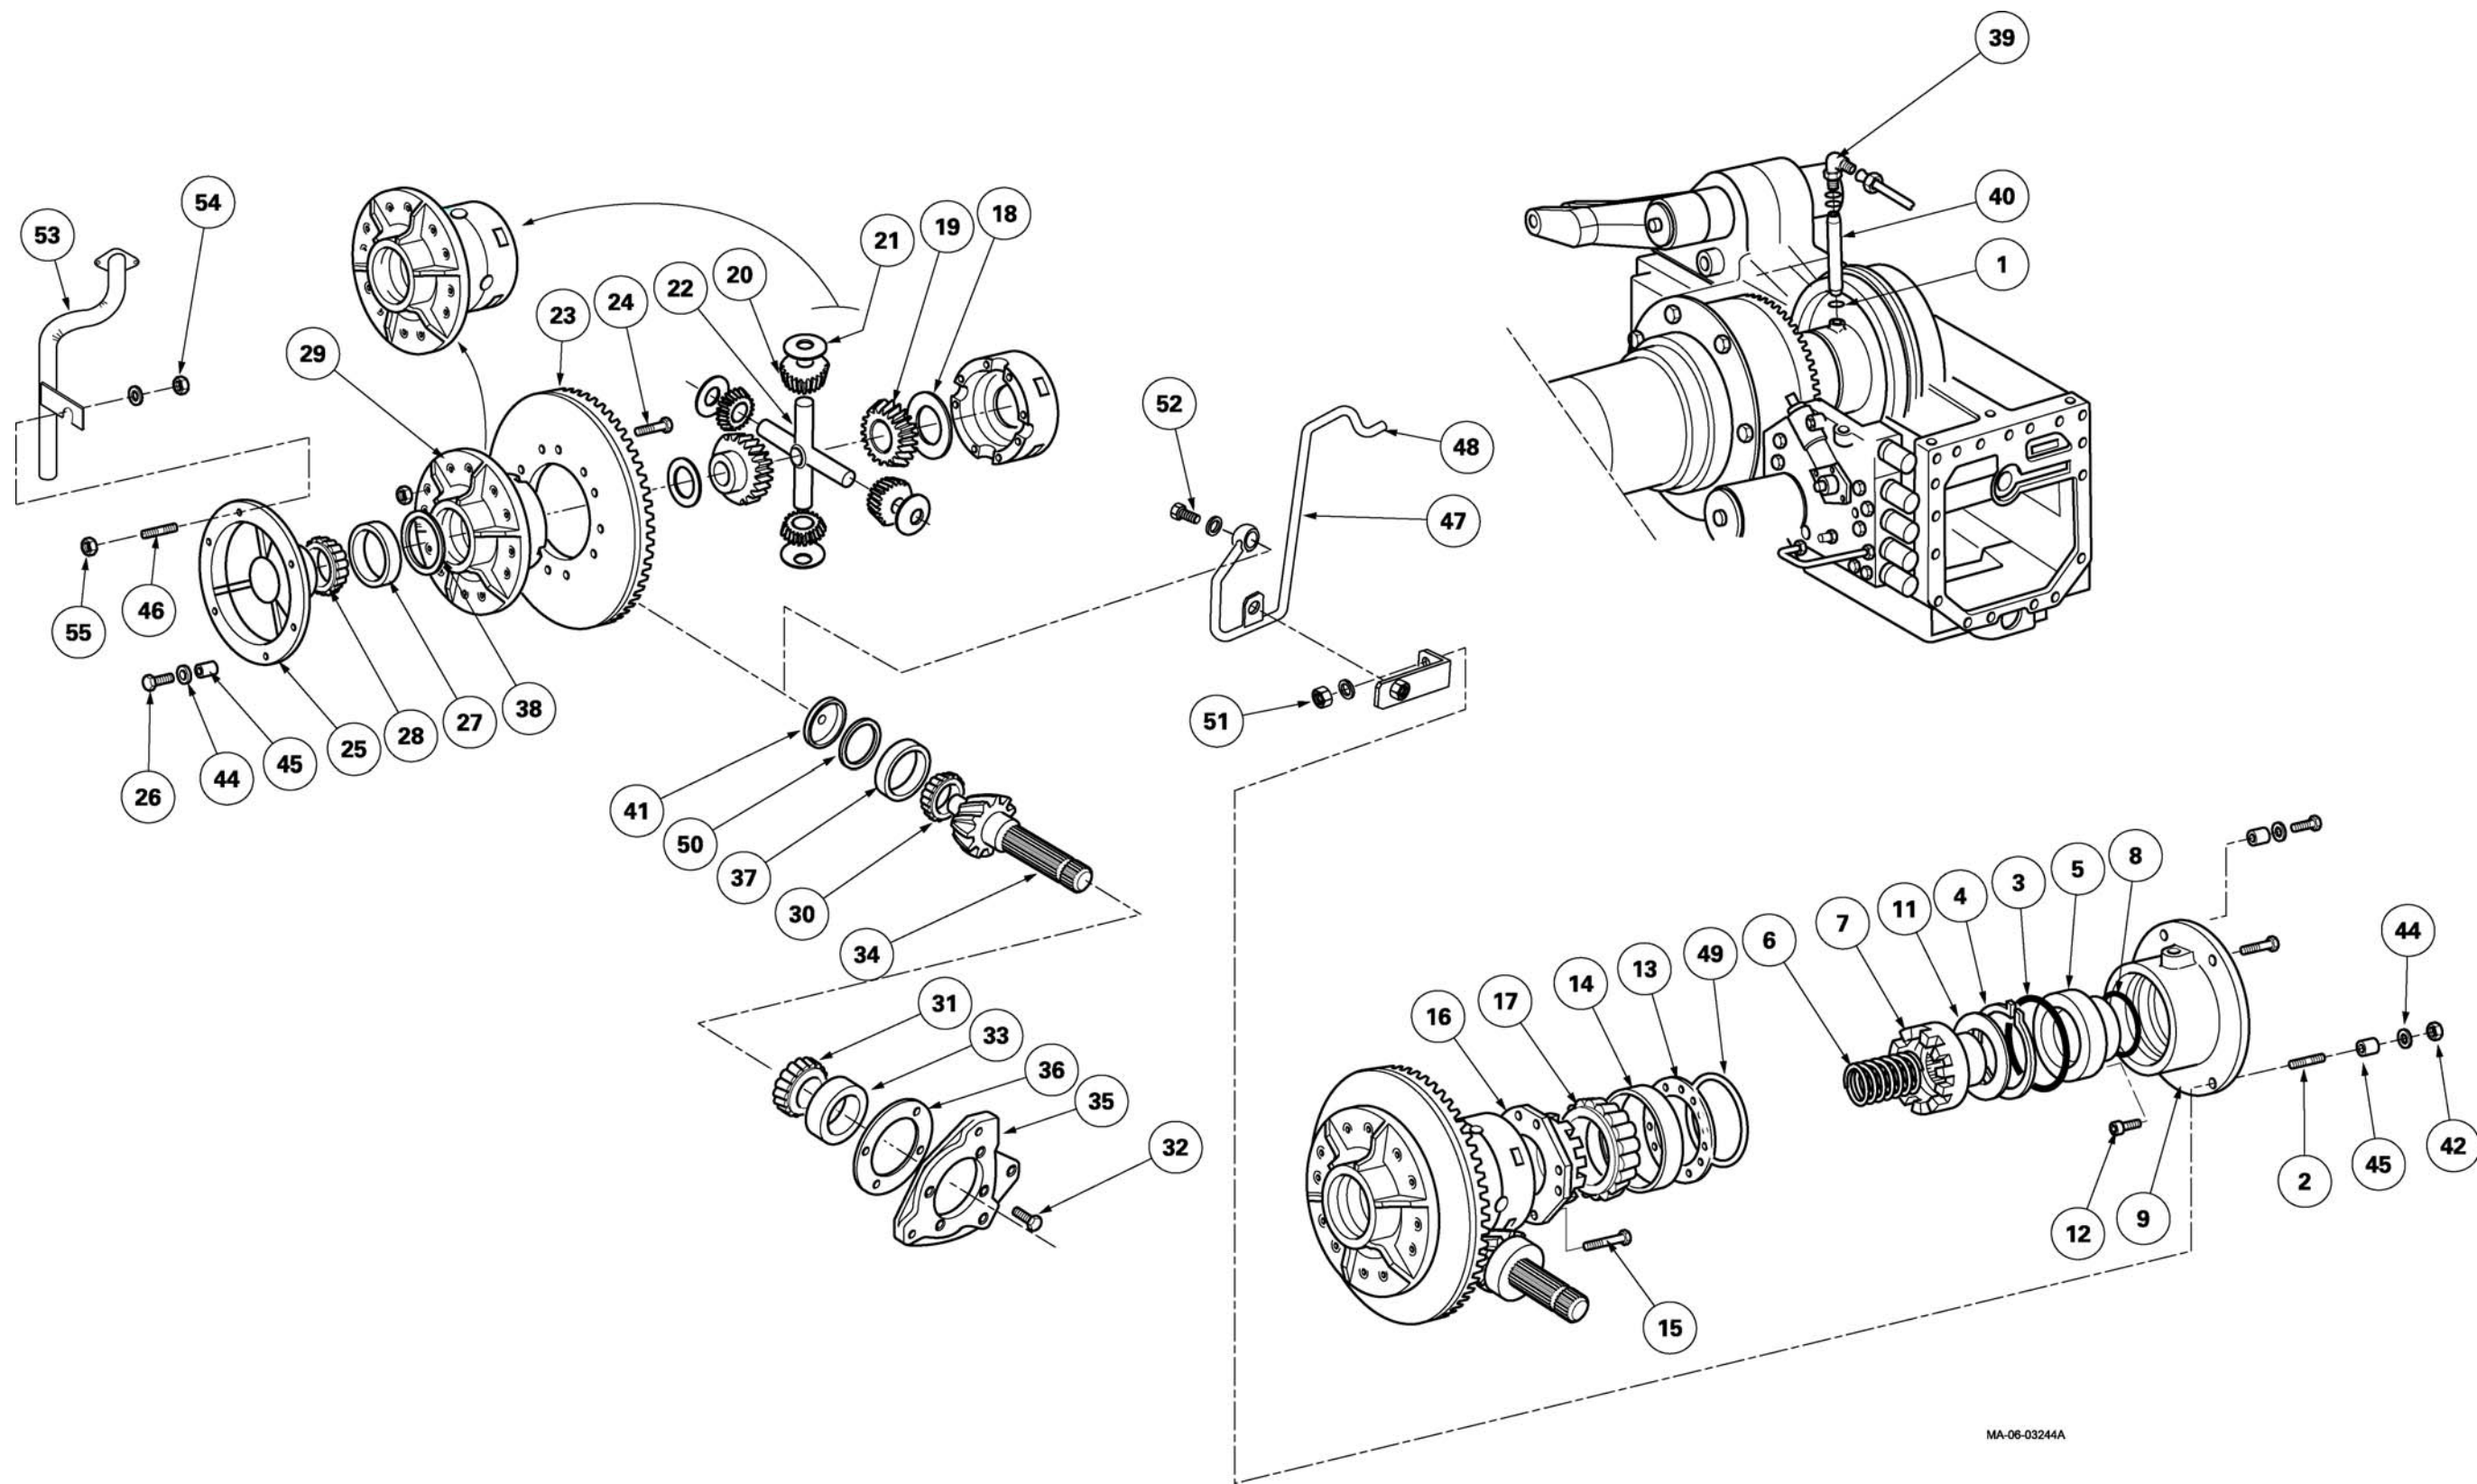

Fig. 2
- Stud (2) (Fig. 2):
- helps attach the left-hand side flange (9),
- it holds the lubricating pipe (47) of the drive pinion (34).
- Stud (46) (Fig. 2):
- attaches the right-hand flange (25).
- supports the return pipe (53) of the hydraulic spool valves (see section 9).
14. Fit circlip (4), shim (49) (if necessary) (Fig. 2), and deflector (13), respecting its assembly direction, and cup (14) (Fig. 6).